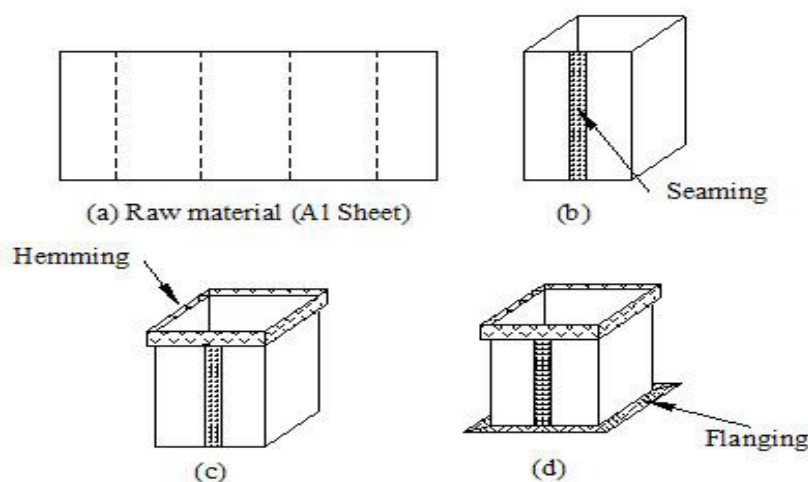

Figure 5.18.3: Different stages in producing the ductwork
1. First, the raw material (Al sheet) is marked, that is, the lines at which the sheet is to be bent or folded, to form the square duct, are marked. See Image (a) in **Figure 5.18.3**.